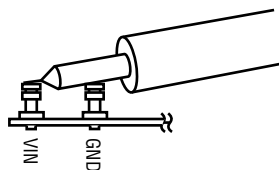

Figure 2. Measuring Input or Output Ripple
NOTE: When measuring the input or output voltage ripple, care must be taken to avoid a long ground lead on the oscilloscope probe. Measure the input or output voltage ripple by touching the probe tip directly across the V_{IN} or V_{OUT} and GND terminals. See the proper scope probe technique in Figure 2.
5. Set the load current of both outputs to 3A and the input voltage to 12V, then measure each output ripple voltage (refer to Figure 2 for the proper measurement technique). Each should measure less than 20mVAC. Also, observe the voltage waveform at either switch node (Pins 23 and 24 for channel 1, and Pins 13 and 14 for channel 2) of each regulator. Both switch node waveforms should be rectangular in shape, and 180° out-of-phase with each other. The switching frequencies should be between 800kHz and 1.2MHz ($T = 1.25\mu$ s and 0.833 μ s).